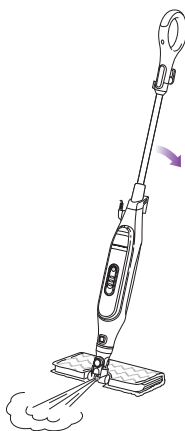

fig. 10
- 5 When you need an extra burst of steam to clean a stuck-on stain, you can use the Steam Blaster™ feature. Flip the head over so that it is behind the mop body, then tilt the mop handle down. This will cause the Steam Blaster (**fig. 10**) to emit a concentrated blast of steam onto the stain.